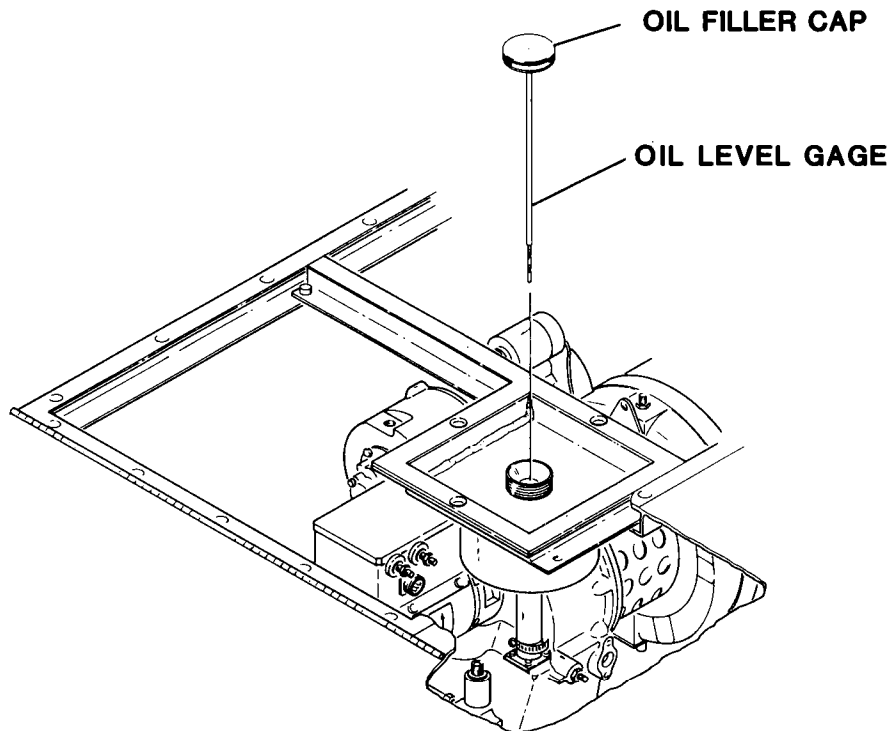

Figure 3-1. Checking Lubricating Oil
(1) Unscrew and remove oil filler cap (figure 3-1).
(2) Wipe oil level gage clean.
(3) Reinsert oil level gage and tighten oil filler cap finger tight.
(4) Unscrew and remove oil filler cap.